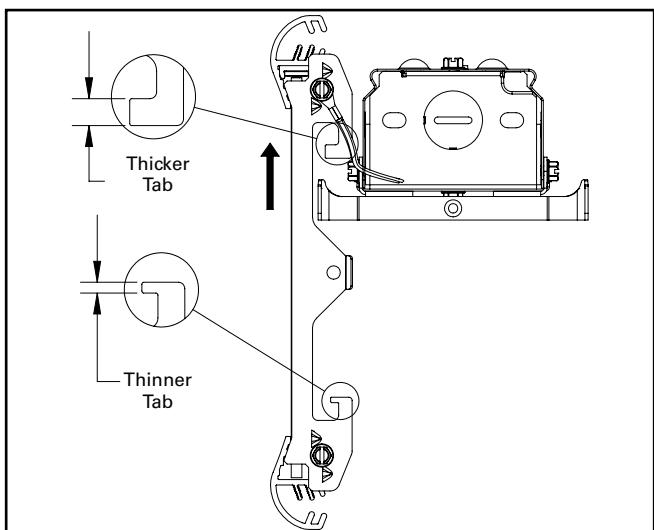

Figure 5.1.
- A. Keep waveguide assembly vertical, make sure the thicker tab end is above the driver hinge bracket (Figure 5.1).